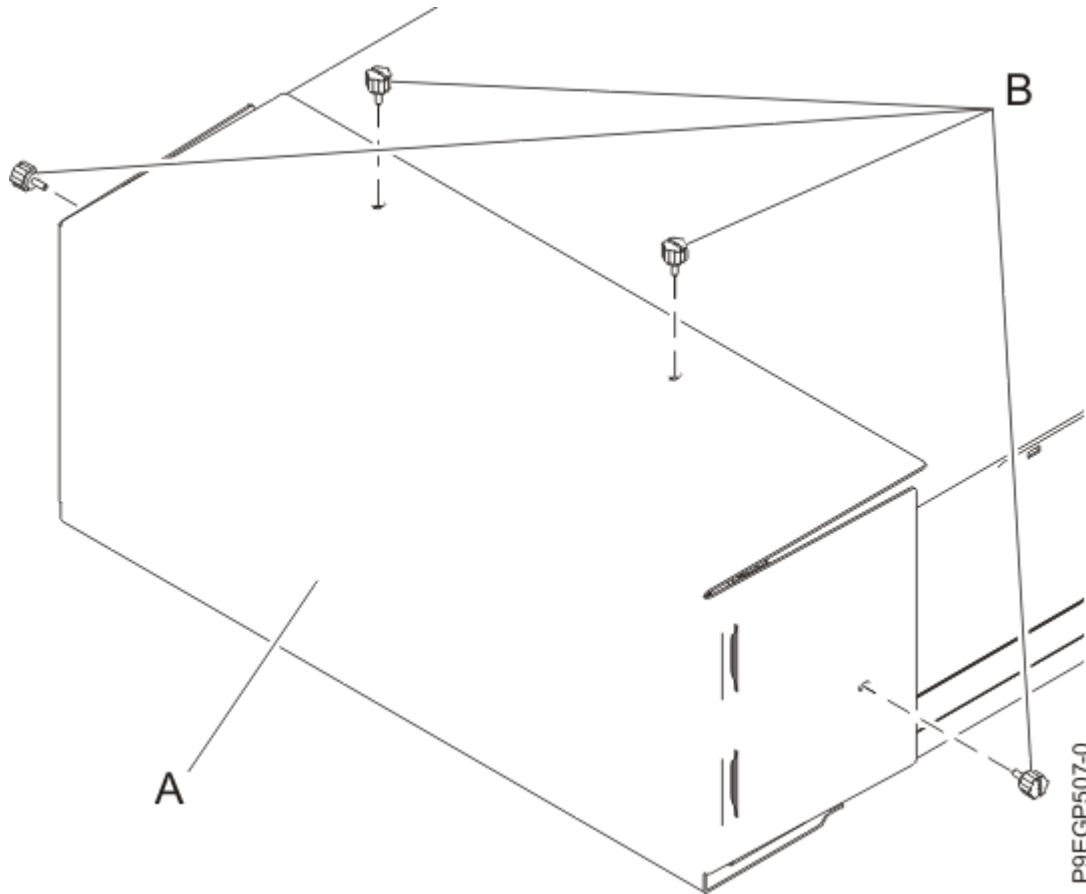

Figure 7. Removing the shipping cover
2. Remove the four thumb screws (**B**) that are used to secure the shipping cover (**A**) to the rear of the drawer, as shown in Figure 7 on page 11. Remove the shipping cover.